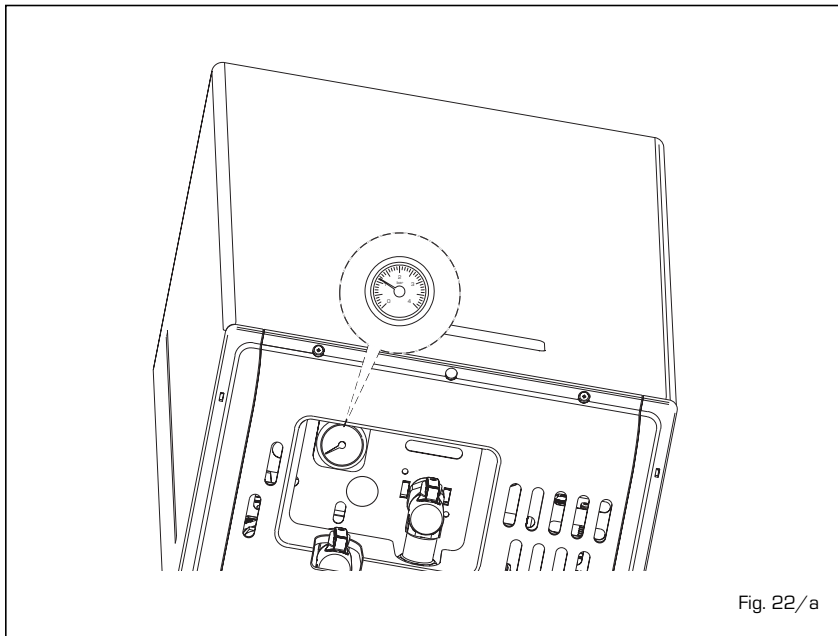

Fig. 22/a
- **SAFETY THERMOSTAT ERROR ALARM 07 (fig. 22/c)**